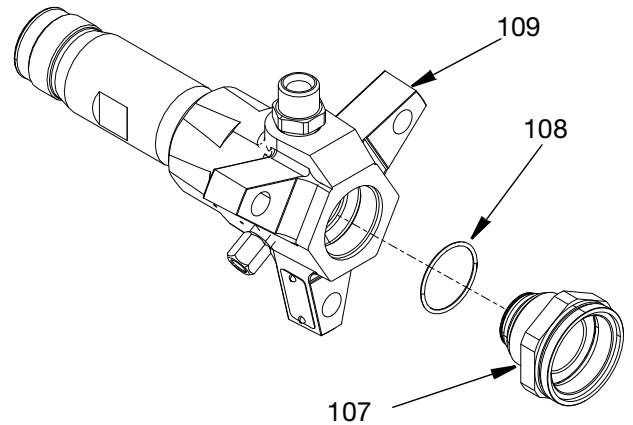

FIG. 26
1. Lubricate the O-ring (108), install onto the seal cartridge (107) and apply anti-seize to the seal cartridge threads. Install the seal cartridge into the outlet housing (109). See FIG. 26. Torque to the following specifications: